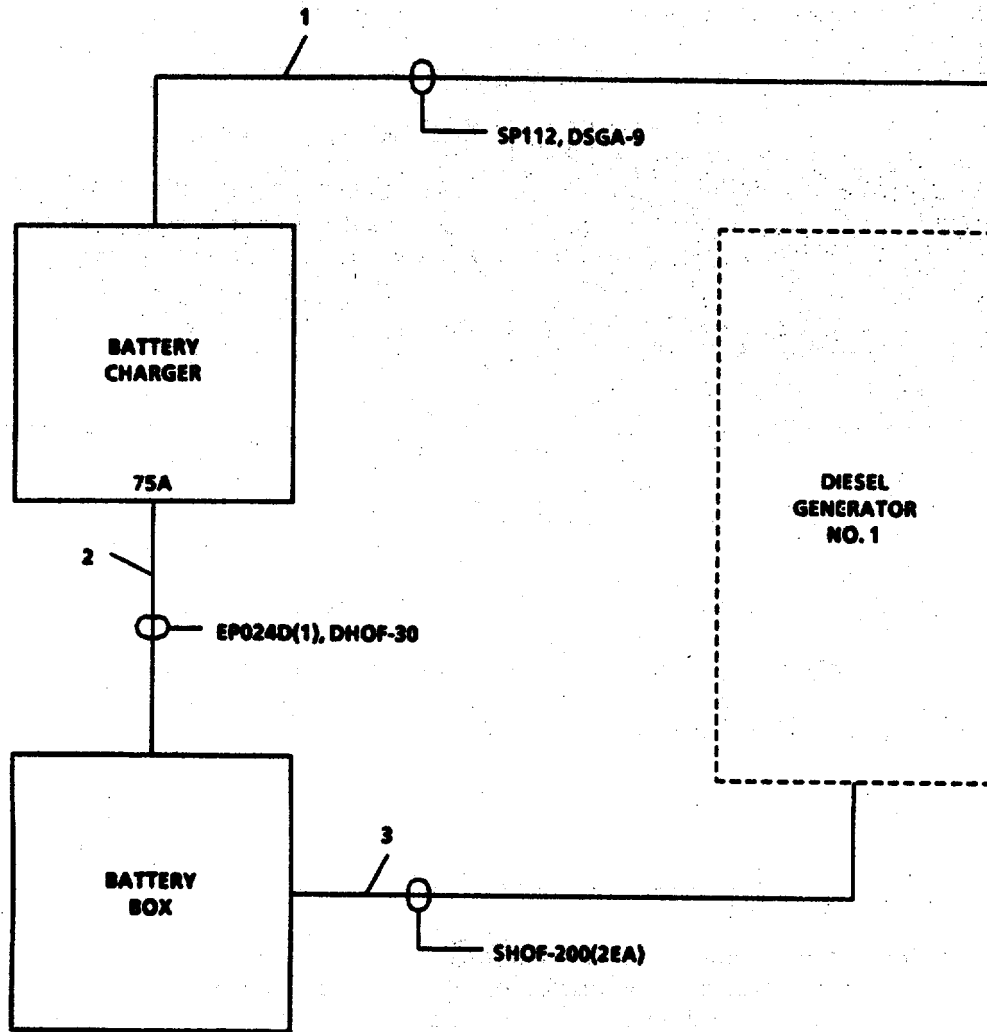

FIGURE 3-166. Generator No. 1 Battery Assembly.
**3-183. Repair Generator Number 1 Battery Assembly. (Figure 3-166)**